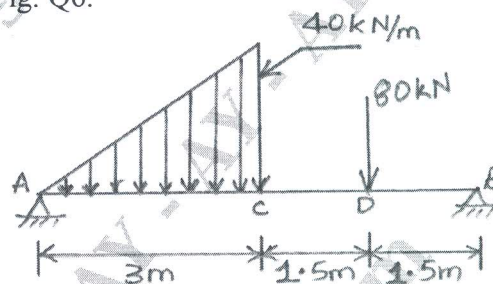

Fig. Q6
- 6 Draw the shear force and bending moment diagram for the simply supported beam subjected to forces as shown in the Fig. Q6. (20 Marks)